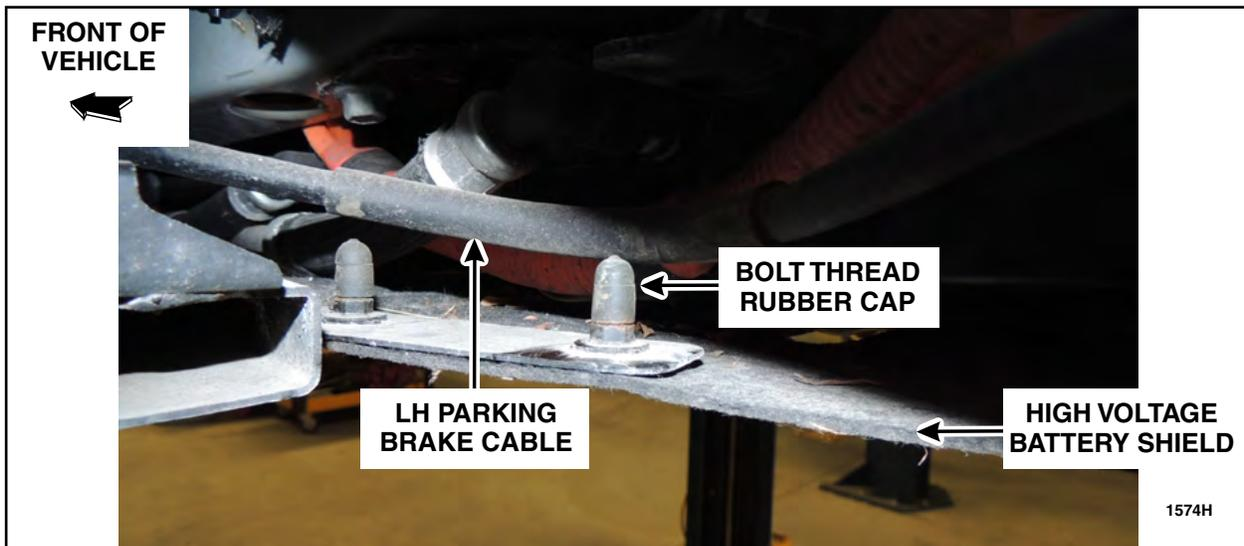

FIGURE 9
3. Remove the bolt thread rubber cap. See Figure 9.
8. Install the bolt thread rubber cap. See Figure 9.